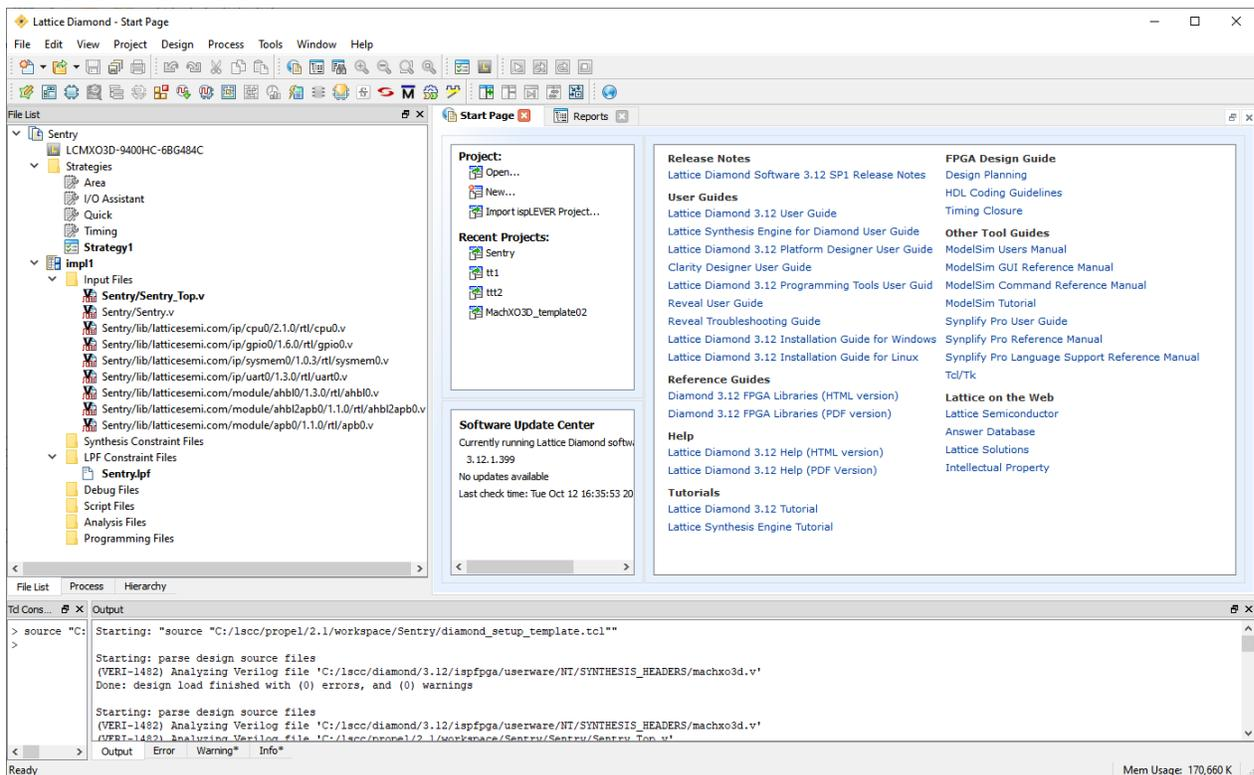

Figure 2.104. Diamond Project
- Lattice Diamond is launched with a Diamond project generated for SoC at the background (Figure 2.104).